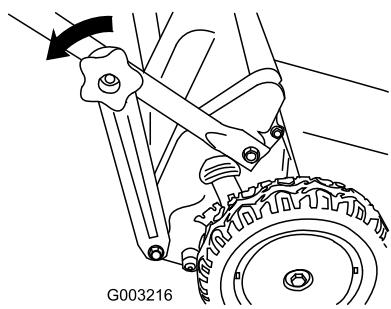

Figure 35
- Remove the lower handle knobs (Figure 35).
- Detach the lower handle brackets from the lower end of both handle sides (Figure 35).